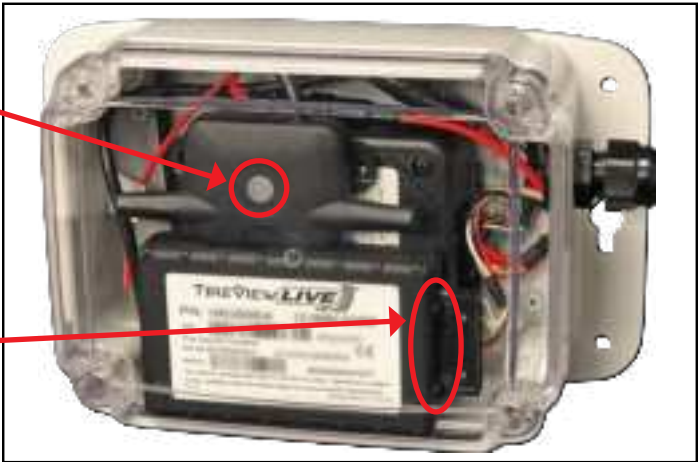

Figure 6
- When power is applied, verify status lights on TVL sending unit. See Figure 6.